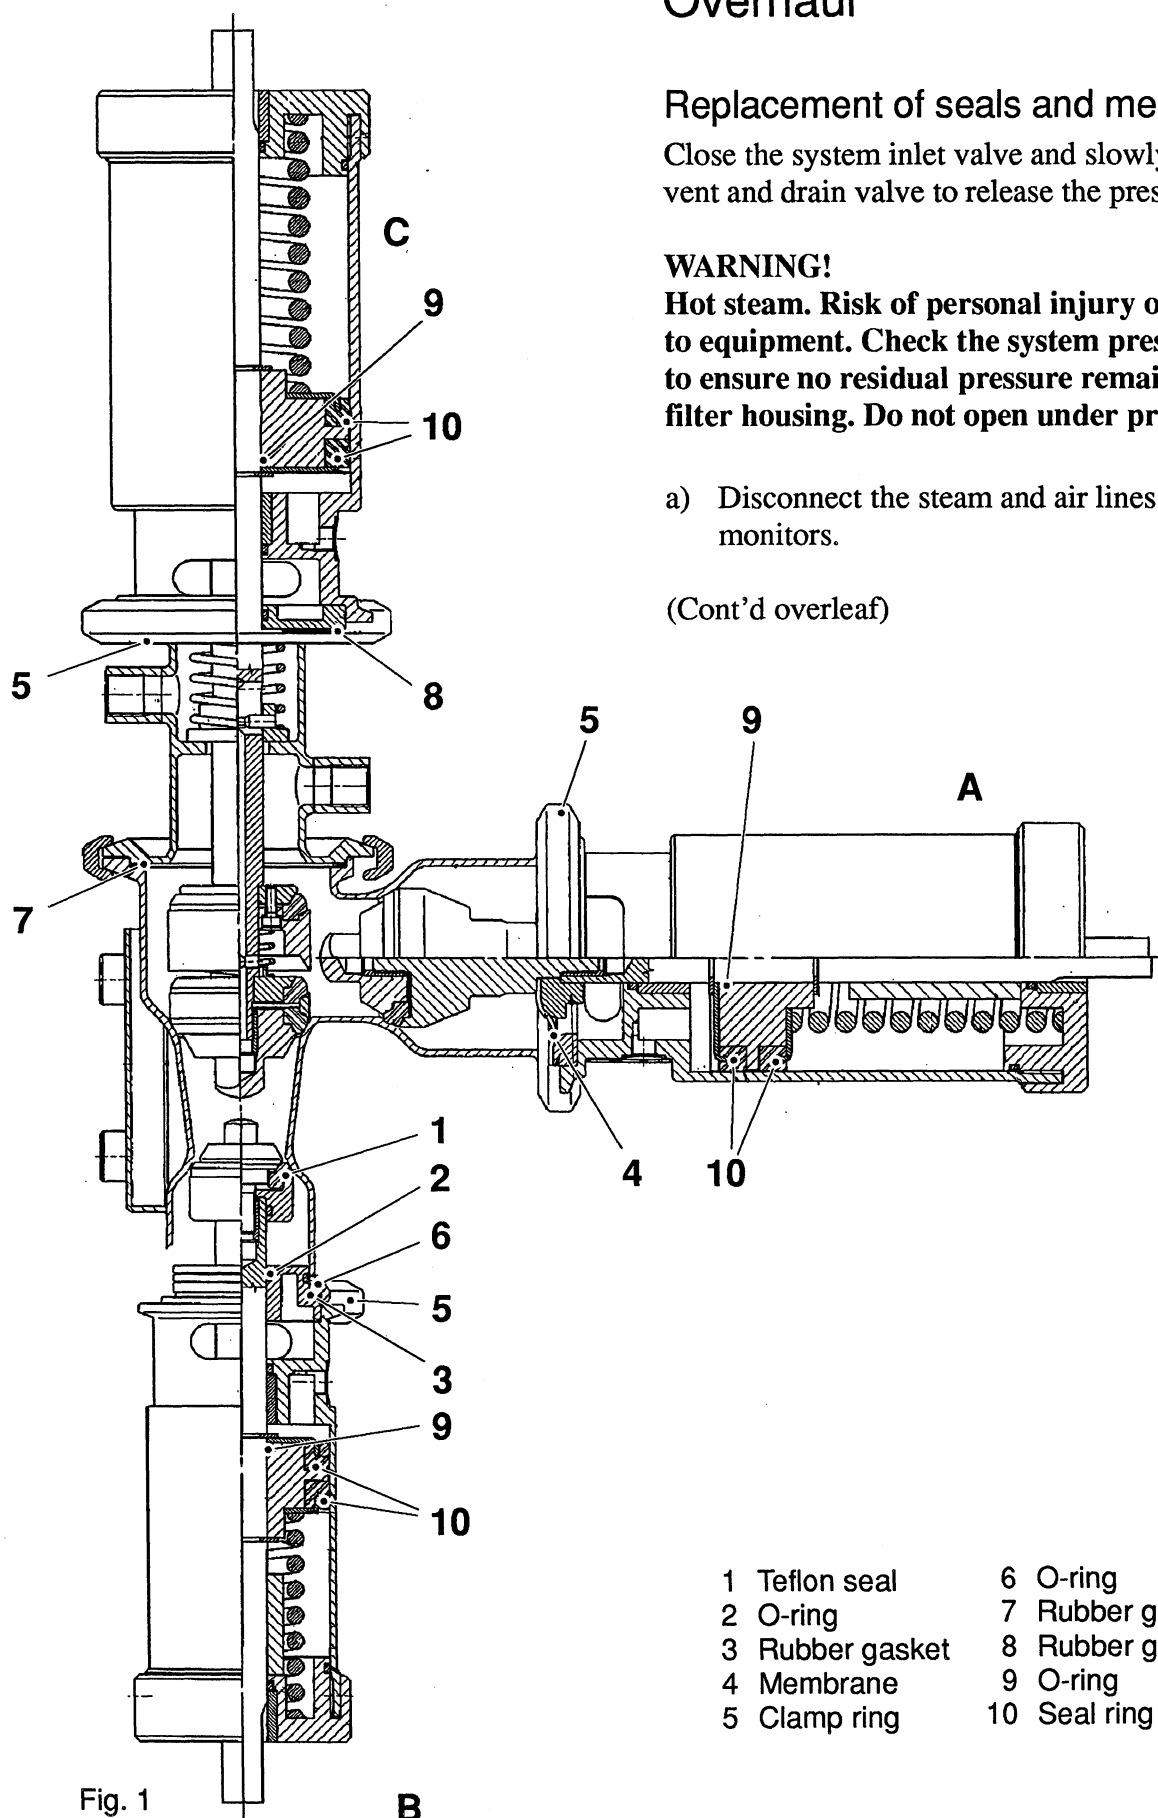

Fig. 1
- c) Loosen the inner clamp ring (pos 5, fig. 1) and remove the valve.
- d) **Product valve (A)**